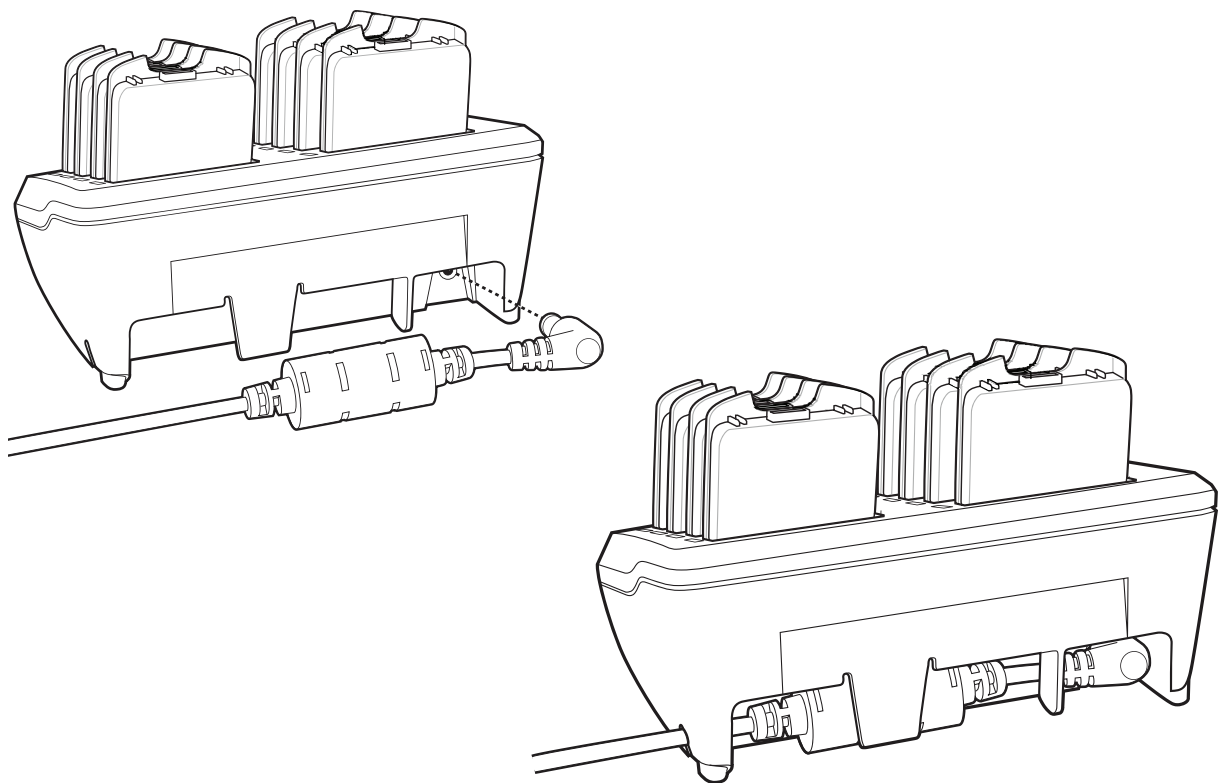

Figure B-3 *Connecting Power*
1. Connect the power supply to the power port on the back of the charger as shown in Figure B-3.